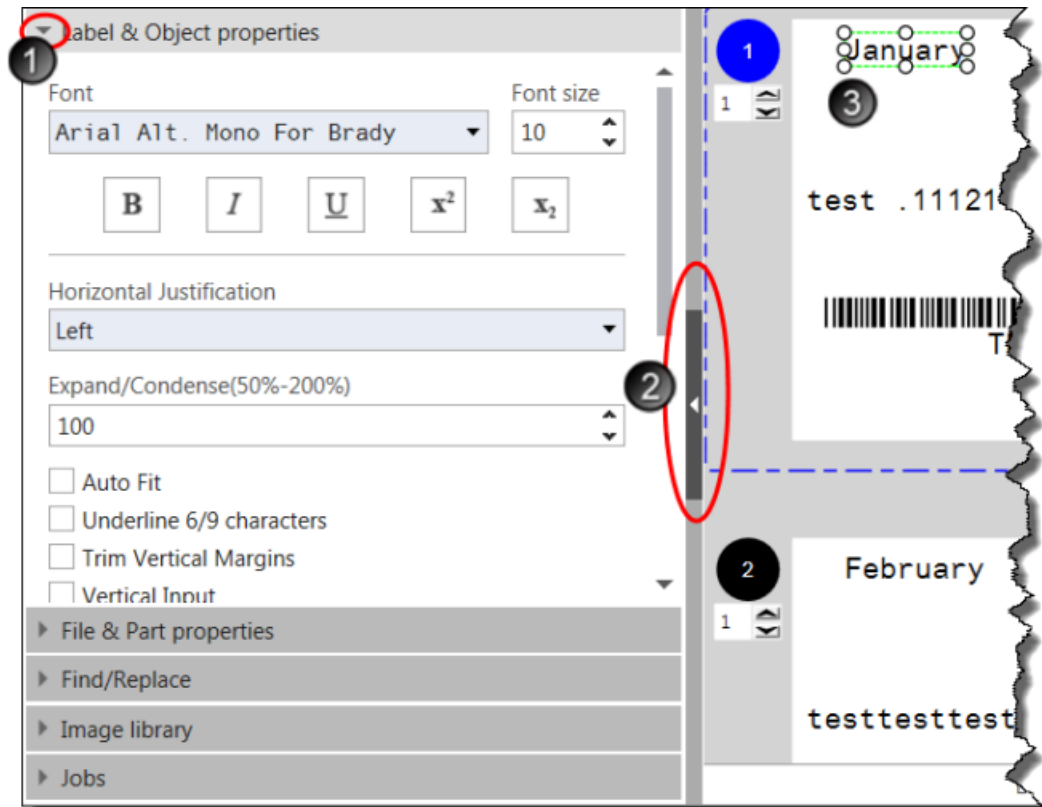

Figure 8 • Properties panels
1. Click the arrow on the left side of the workspace window. (The arrow changes directions depending on whether you are displaying or hiding the properties panels.) This arrow is marked with a 2 in Figure 8 on page 44.
2. To display a particular property panel, click the arrow next to the panel name. (The arrow points down when the panel is open and to the right when the panel is closed. This arrow is marked with a 1 in Figure 8.)